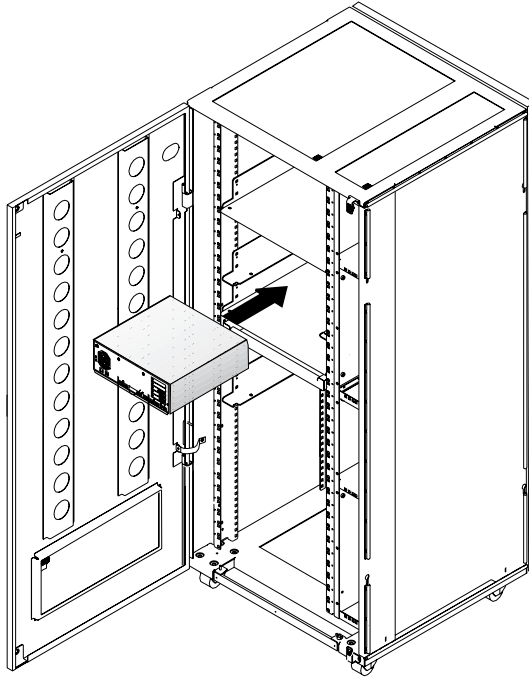

Figure 1-79. Installing the Service Processor Unit in the Controller Expansion (Rear Side)
13. ____ If installed, remove the floor stand and slide the service processor unit as shown in Figure 1-79, then **go to step 15** .